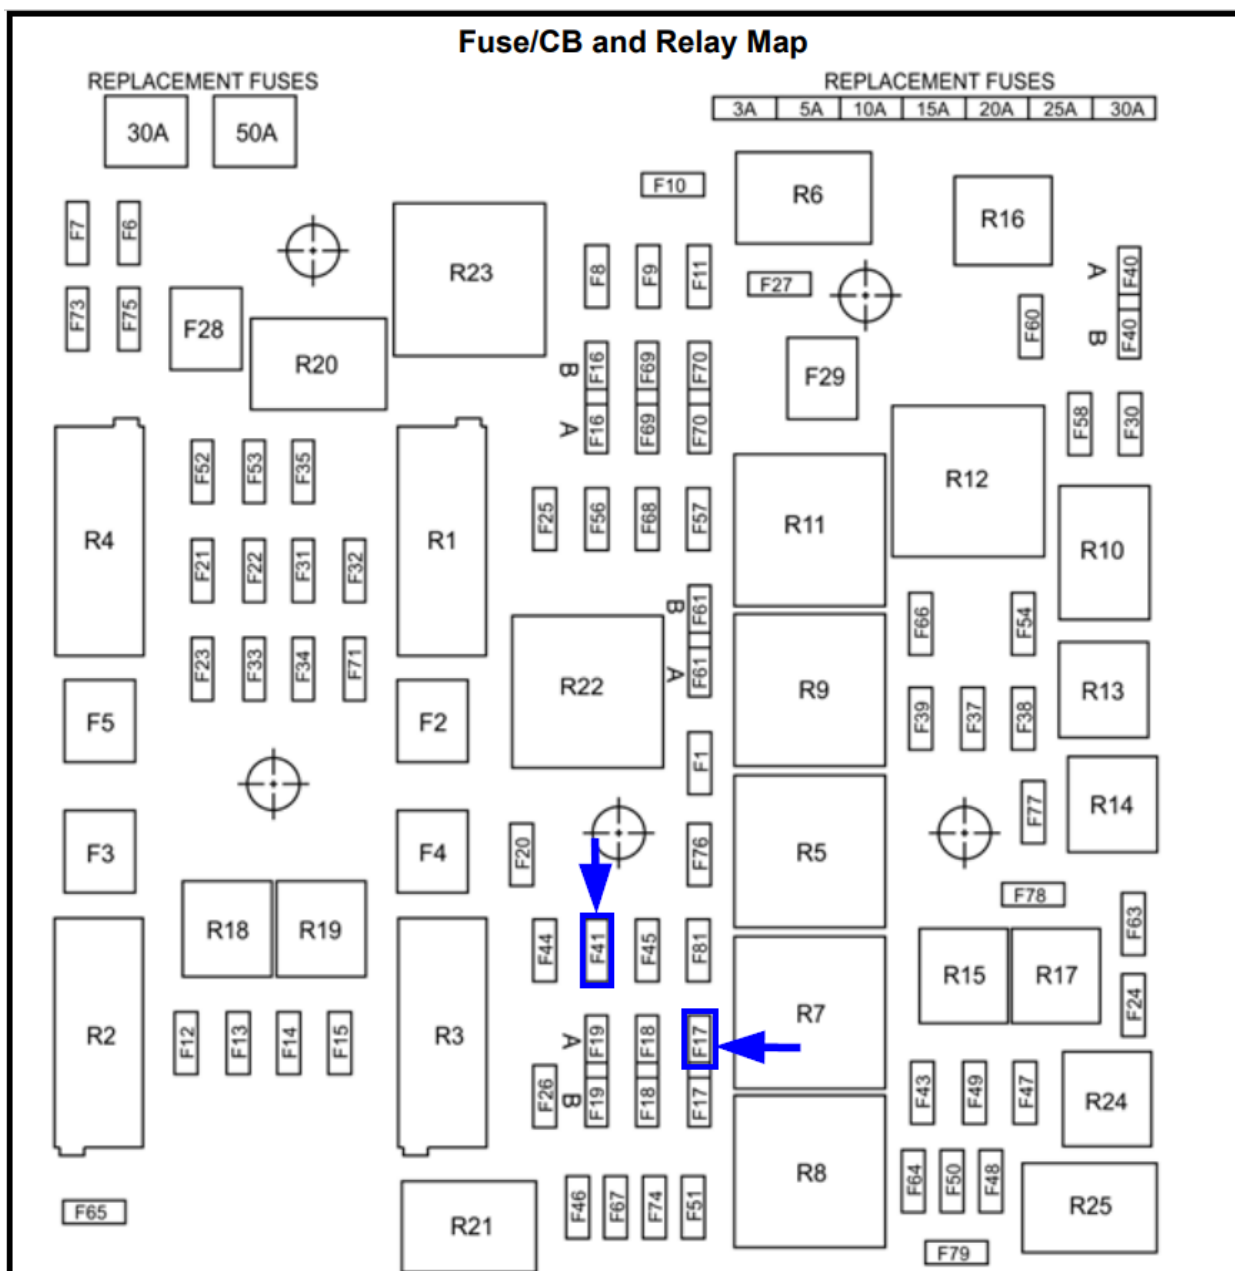

Fig. 4, VPDM Fuse Locations for Module 786 - Positioning and Location Systems
- 4b.** If customers are powering the third-party telematics using wiring provided in module 786 -POSITIONING & LOCATION SYSTEMS, then disabling the component can be achieved by accessing the VPDM and pulling the 5 amp fuse F41 that supplies ignition power, and pulling the 10 amp fuse F17(a) which would supply battery power. See Fig. 4.